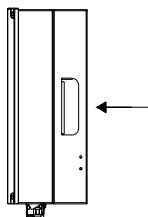

Figure 3.4-2
3. Carry the inverter by holding the handles. Refer to Figure 3.4-2.